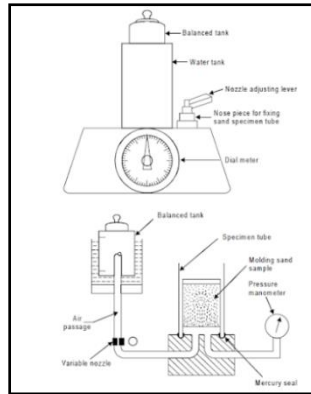

Figure 6.2. Strength and Permeability Tester
- A sample of dry sand is placed in the upper most sieve and place the sieve stand on the vibrator. Then vibrate the sieve stand for a definite period. An amount of sand may be retained on each sieve and same is weighed. Calculate the AFS grain fineness number figure 6.2.